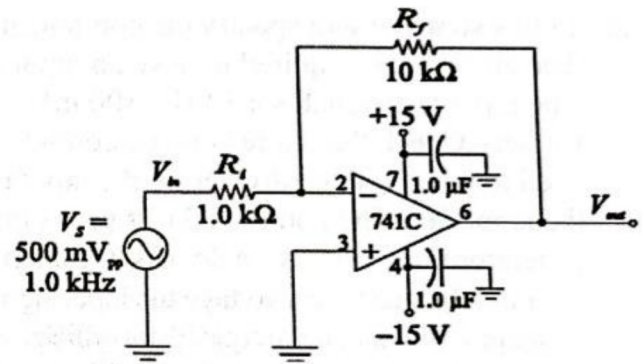

Figure 20-4
2. In this step you will test an inverting amplifier. All data are to be recorded in Table 20-2. The circuit is illustrated in Figure 20-4. The close-loop gain is:
- Connect the circuit shown in Figure 20-4. Set the signal generator for the 500 mV_{pp} sine wave at 1kHz. The generator should have no dc offset.
5. What output would you expect in the inverting amplifier of Figure 20-4 if R_f were open?